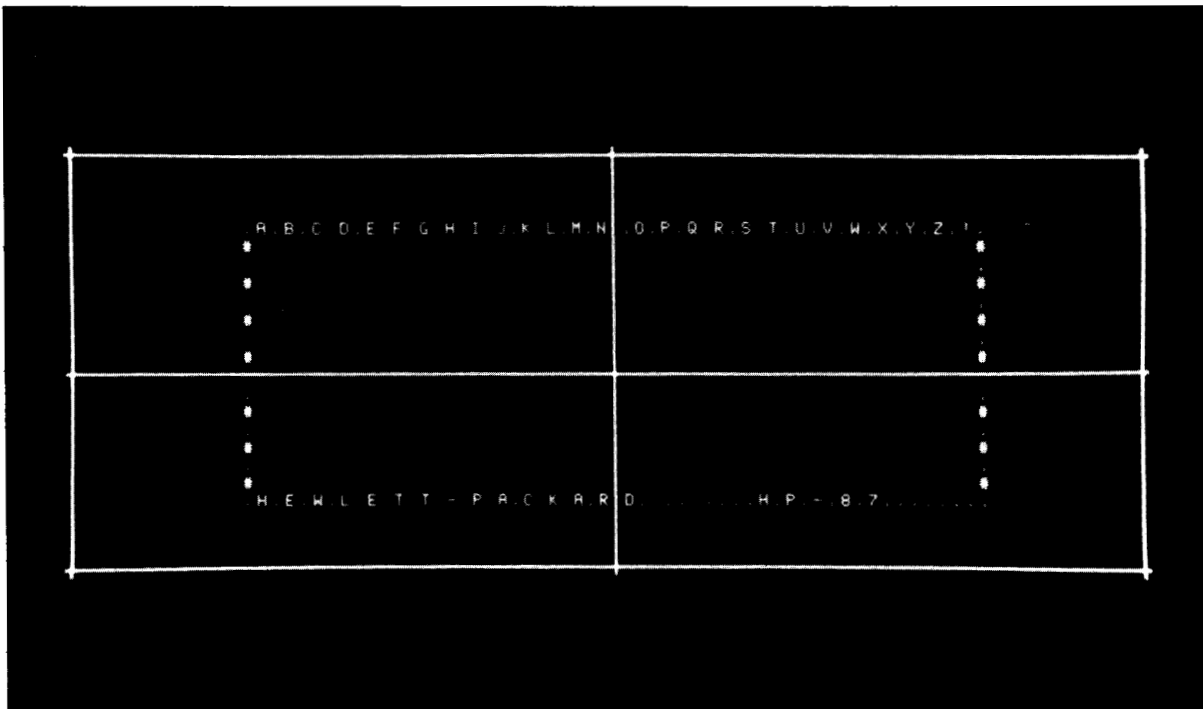

Figure 2-12. CRT Test Pattern 4
- g. The pincushion test pattern (CRT test pattern 4) shown in figure 2-12. This remains for about 3 seconds.